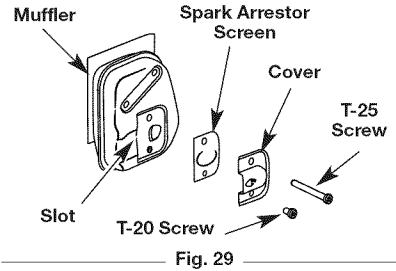

Fig. 29
2. With a flat blade screwdriver or Torx T-20 bit and a T-25 bit, remove the screws attaching the spark arrester cover to the muffler (Fig. 29).